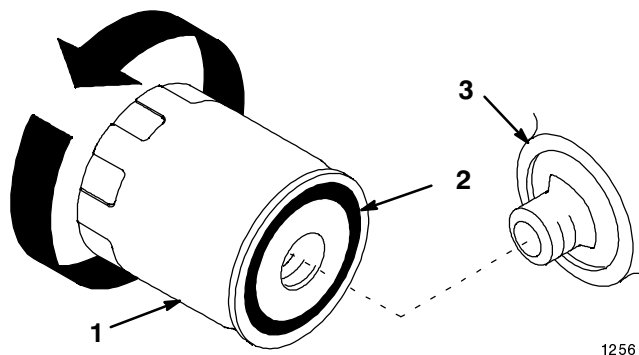

Figure 46
2. Remove the transaxle filter and wipe the filter adapter (Fig. 46) gasket surface.
3. Apply a thin coat of new oil to the rubber gasket on the replacement filter (Fig. 46).
4. Install the replacement transaxle filter to the filter adapter. Turn the filter clockwise until the rubber gasket contacts the filter adapter, then tighten the filter an additional 3/4 turn (Fig. 46).